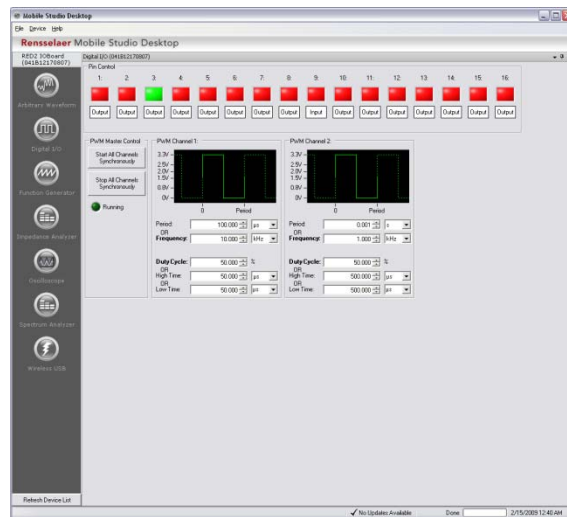

Figure 5-2: Channel 3 On
- 4) Clicking on the red box of an output channel allows the user to change the on/off status of the channel, denoting by the changing colors of green/red, shown by pressing on the red box of channel 3 in Figure 5-2.